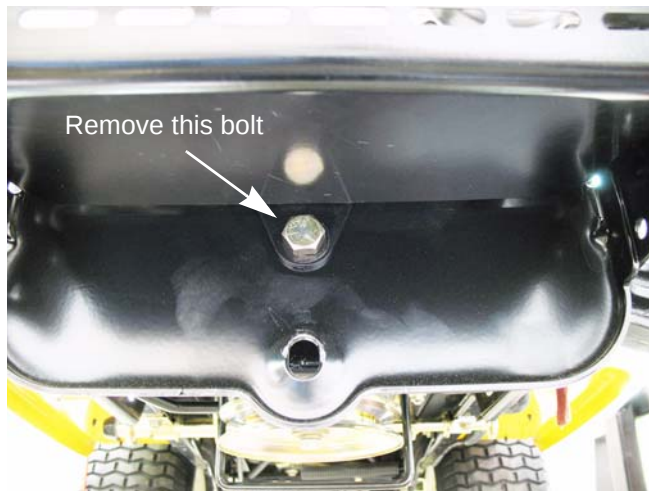

Figure 3.21
5. Remove the pivot bar pivot bolt using two 3/4" wrenches. See Figure 3.21.